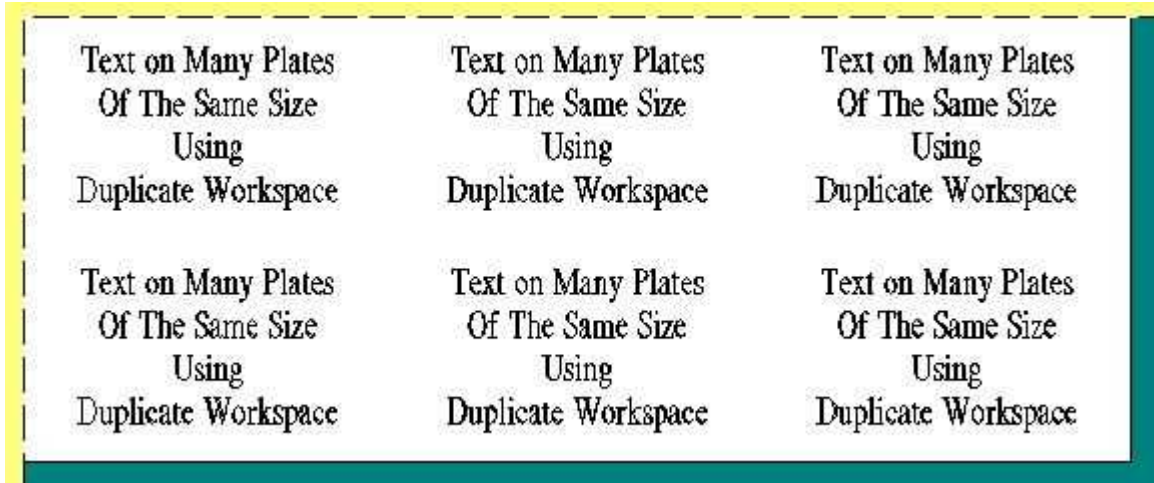

Figure 2
- 3 You should now have 3 in the "X" and 2 in the "Y" direction of the original text, on the screen, see Figure 2.